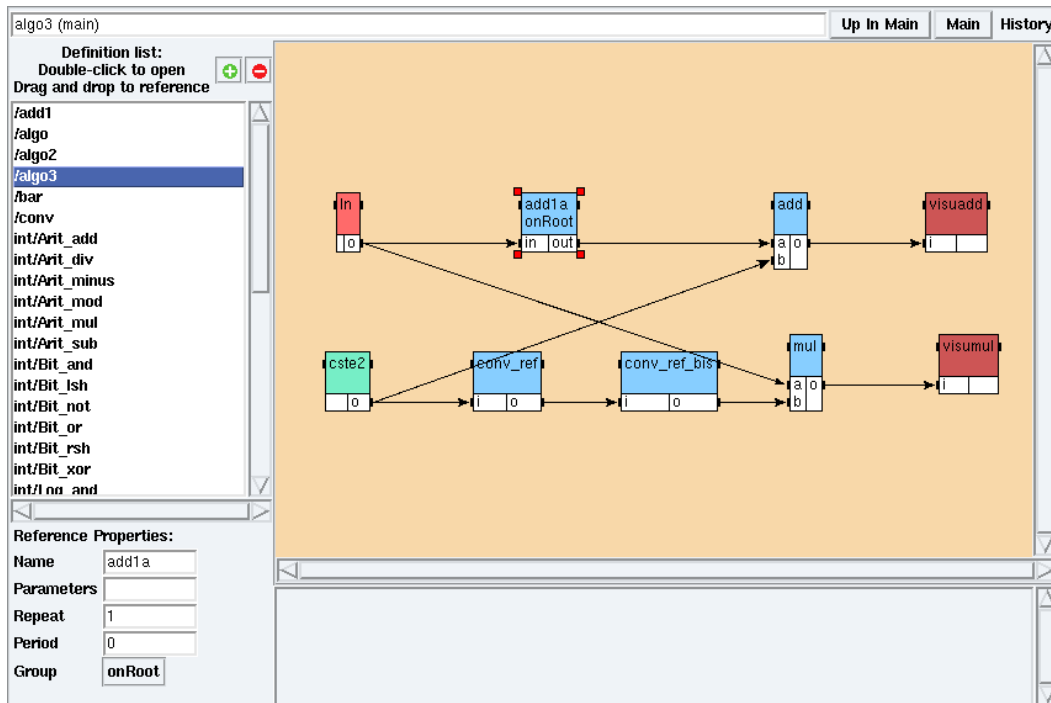

Figure 7.1: Main algorithm after adding 'bar_ref'
- in the algo2 definition window: first delete the `conv_ref_bis` reference, then create a reference `bar_ref` box to the definition `bar`, finally create the missing dependencies. The main algorithm should look like the figure 7.1.